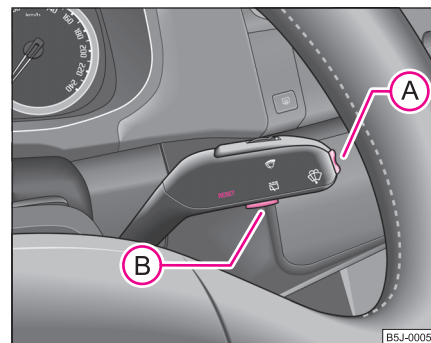

Fig. 10 Information display: Control elements
- You can activate the menu by pressing the rocker switch (A) ⇒ fig. 10 for more than 1 second.
- You can select the menu through the rocker switch (A). The selected information is displayed after pressing the button (B) for a short time or after releasing the rocker switch (A) (after about 4 seconds).